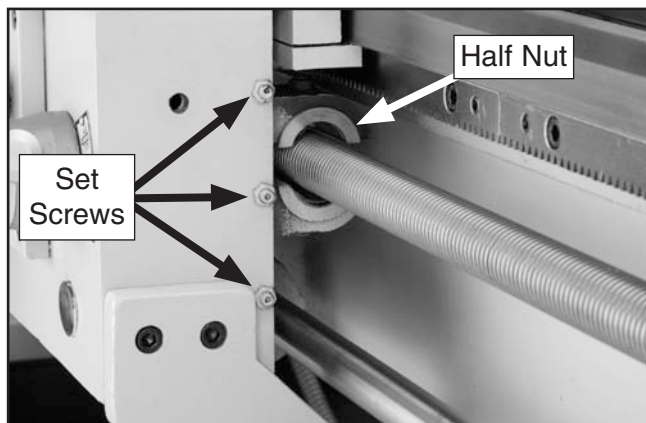

Figure 101. Half nut gib set screws.
3. Loosen the hex nuts on the set screws shown in **Figure 101**.